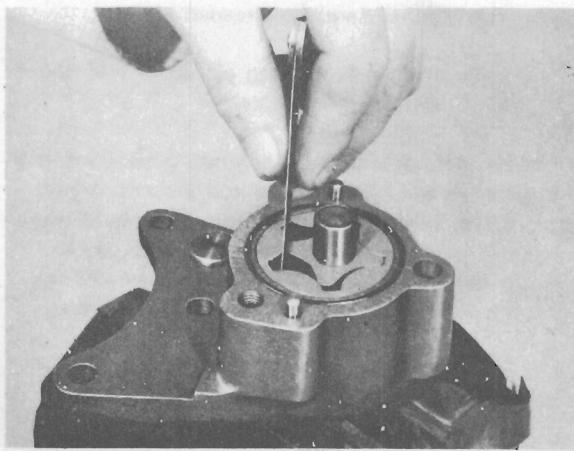

Fig. L.9.
2. Install the driven rotor in the pump body and check the clearance between the maximum diameter of the inner rotor and the minimum diameter of the outer or driven rotor at all points. The chamfered edge of the outer rotor enters the pump body first. The manufacturing clearances are given on Page B.11. See Fig. L.9.